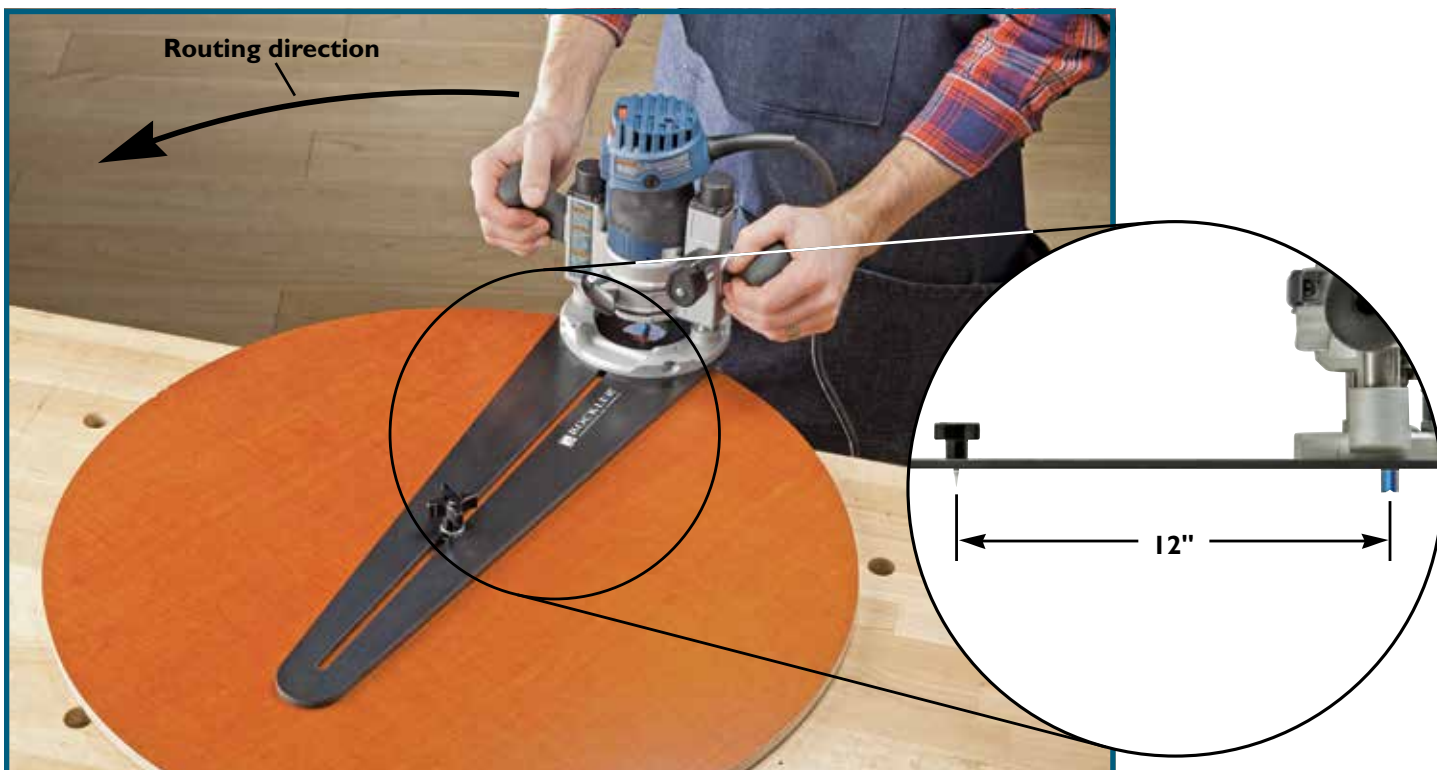

Fig. 2 - Jig setup to make a 24" diameter circle with a 3/8" bit
5. Set the router to the desired depth of cut and rout in a counterclockwise direction. The radius of your circle is the distance from the inside edge of the router bit to the center of the pin. **Fig. 2**.